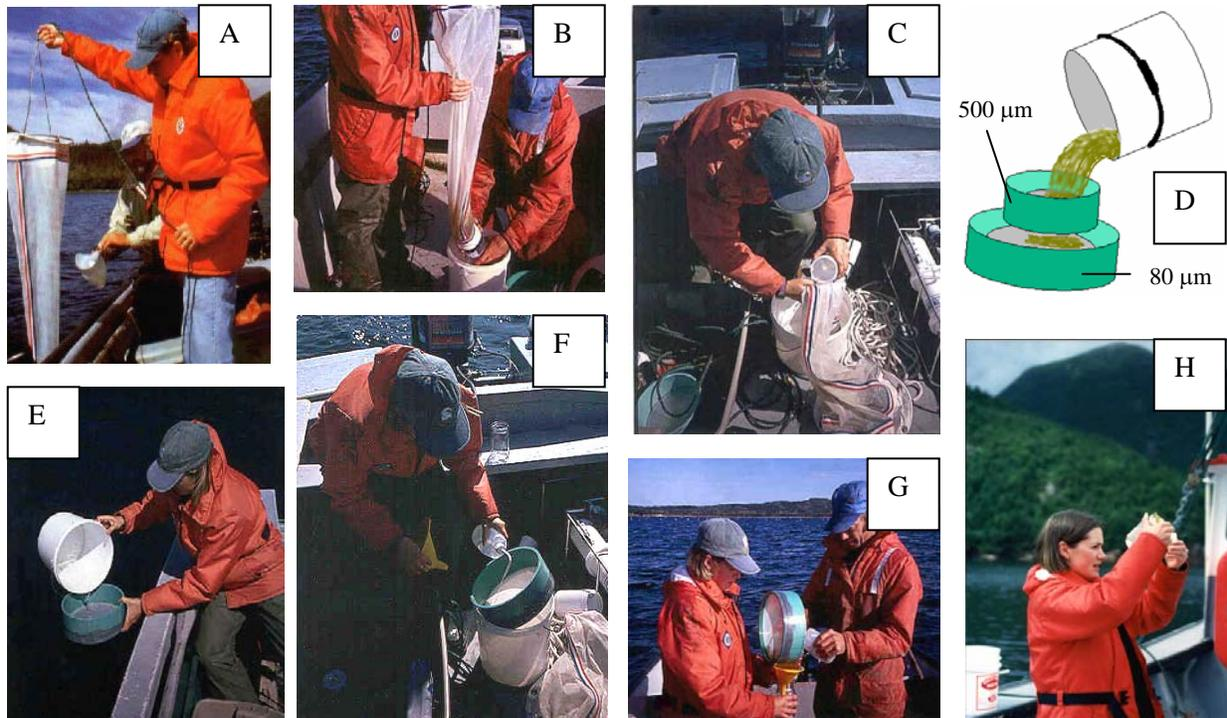

Figure 8A-H. Step by step procedure for plankton tow sampling. Each plankton takes 10 minutes or less to complete (Cyr Couturier and Miranda Pryor – photos).
4. Hold the net up outside the boat and rinse the net with a scoop or wash bottle (Figure 8A).
*Note: From Step 5 onward, the procedure is the same as the vertical tow. Refer to Figure 8A-H.*